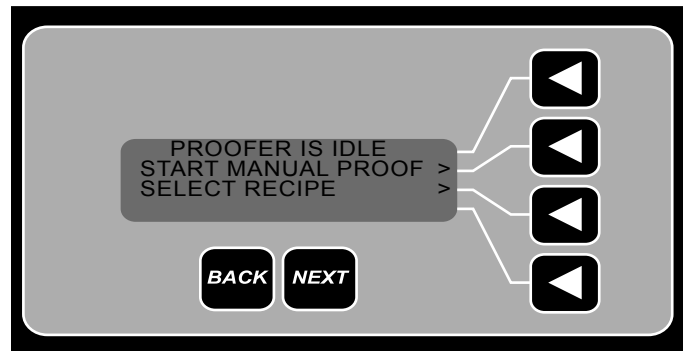

Fig. 2
The LCD panel displays two options after the ON/OFF button is pressed (Fig. 2). The arrow buttons on the right point to the selectable features.
- Press the "START MANUAL PROOF" operation arrow button (Fig. 2).